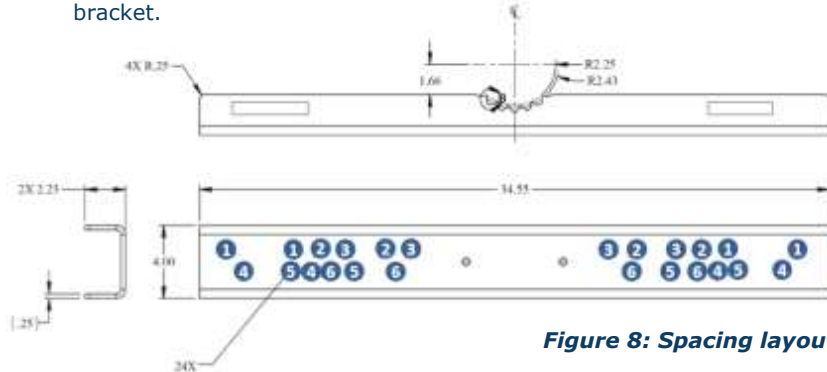

Figure 8: Spacing layout
1. Attach dual mount adapters K to bracket F, using *Table 3, Figures 8 and 9*, and the following 3/8" hardware: A, C, D, and E. K and accompanying hardware replace pre-existing antenna mounting bracket.